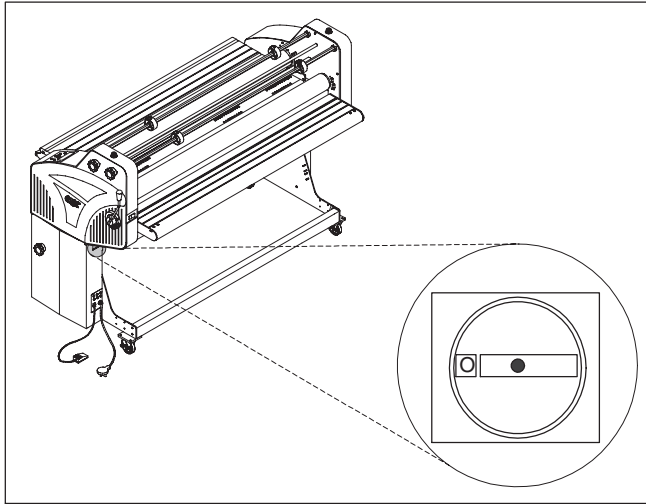

Fig 5
A. POWER ON/ OFF (I/O): (Figure 5) Located at the back left of the machine applies power to the laminator. The control panel display will illuminate when switch is rotated to the “I” position. The off position, marked “O”, removes power from the laminator.